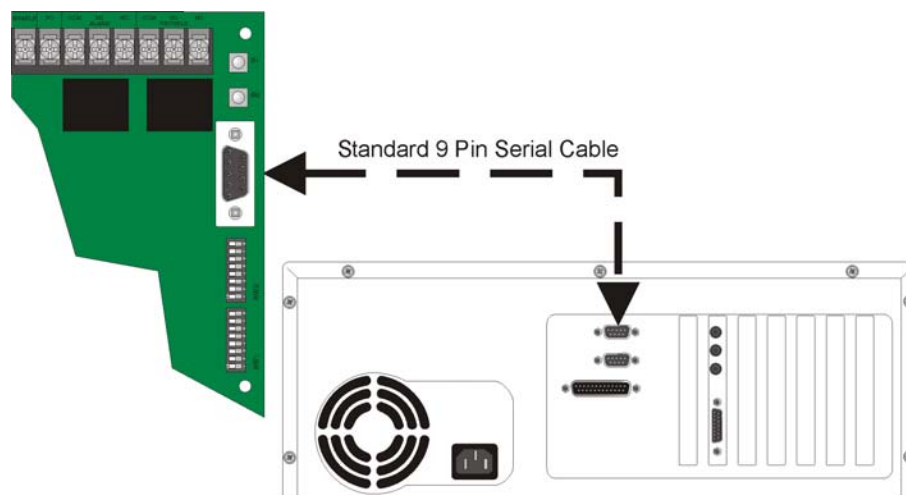

Figure 4-2 Serial Cable Connections
2. Connect the PC to the panel using a standard 9-pin serial cable. See Figure 4-2.